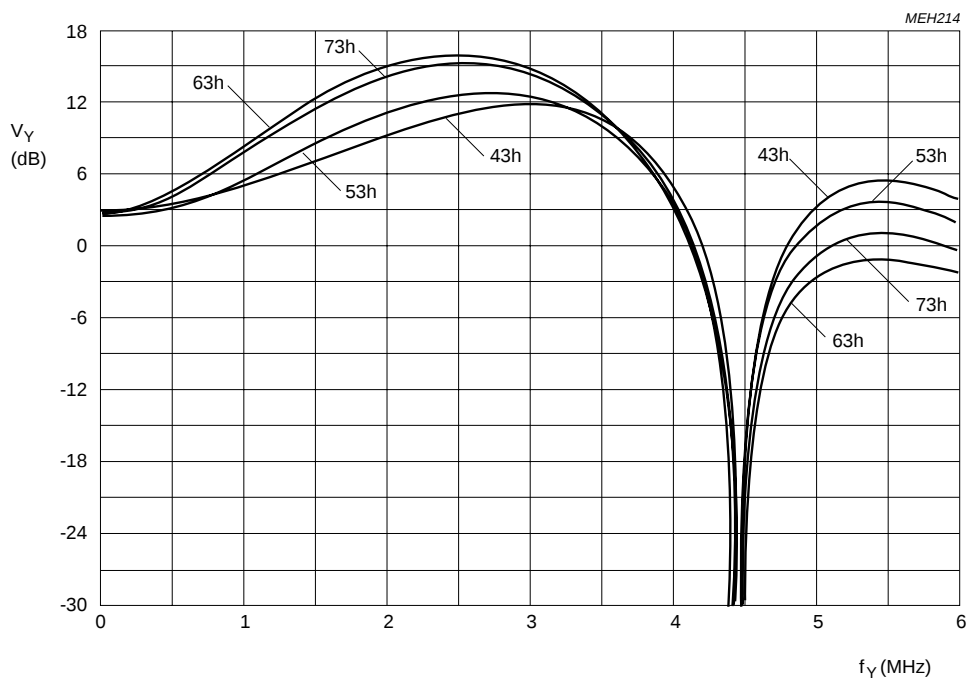

Fig.16 Luminance control in **50 Hz** / CVBS mode controllable by subaddress byte 06; pre-filter on and coring off; maximum aperture bandpass filter characteristic.
) Figures 16 to 25
Figure 16 to 25
- dependent on application (Figures 16 to 25)